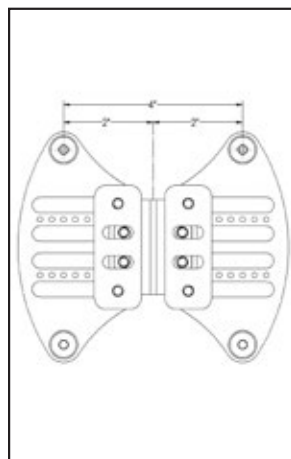

Fig. 3: Range of adjustment for pediatric and armadillo mounting hardware
1. Setting Back Height and Angle - The ARMADILLO installs, like all nxt Backs, using Universal Clamps attached to the back canes. The back height and angle of the middle shell segment are adjusted using these clamps as shown on page 5 (*fig. 3*)